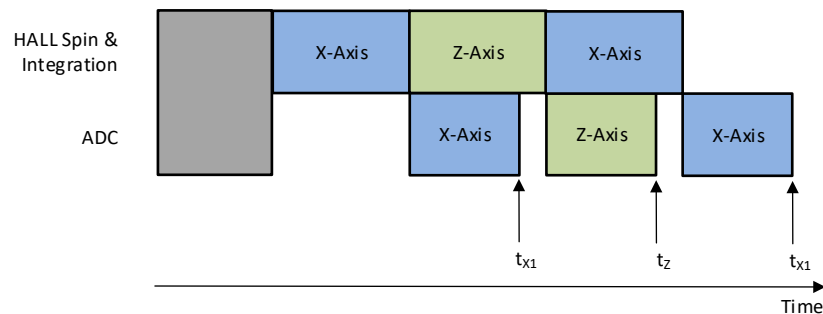

Figure 17. XZX Magnetic Field Conversion
In absolute angle measurement, application sensor data from multiple axes are required to calculate an accurate angle. The magnetic field data collected at different times through the same signal chain introduces error in angle calculation. The TMAG5170-Q1 offers pseudo-simultaneous sampling data collection modes to eliminate this error. Figure 17 shows an example where **MAG_CH_EN** is set at 1101b to collect XZX data. The time stamps for X and Z sensor data are the same as shown in Equation 8.
- t_{x1} , t_z , t_{x2} are time stamps for X, Z, X sensor data completion as defined in Figure 17.